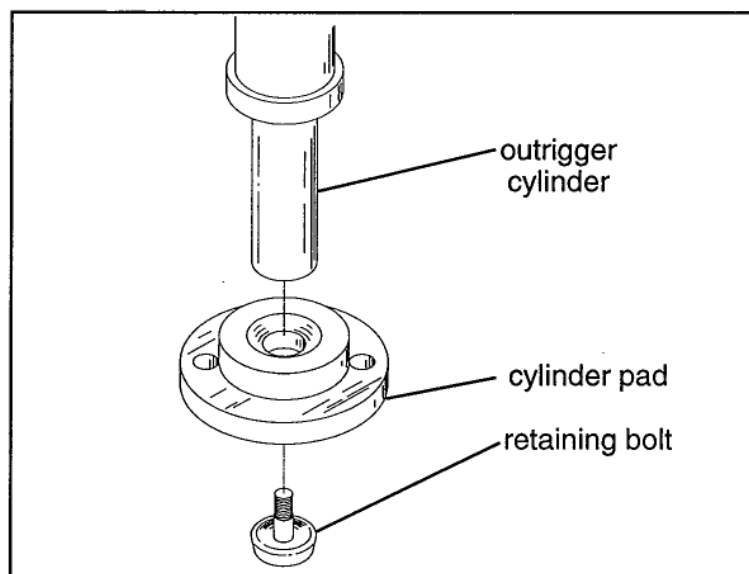

Figure 1
PROCEDURE: Read all instructions thoroughly and refer to figure 1 before starting. The procedure written below are the steps to replace one outrigger cylinder pad and retaining bolt. Repeat this procedure for each of the other three outrigger cylinder pads and retaining bolts.
3. Apply medium strength thread lock to retaining bolt. Install outrigger cylinder pad and retaining bolt to outrigger cylinder. (Figure 1)